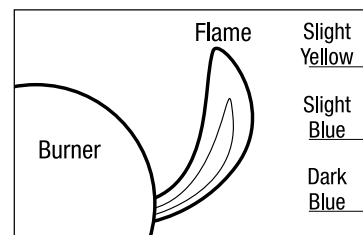

FIG. 3
9. After lighting, observe the burner flame. Make sure all burner ports are lit and flame height matches illustration. **Fig. 3.**